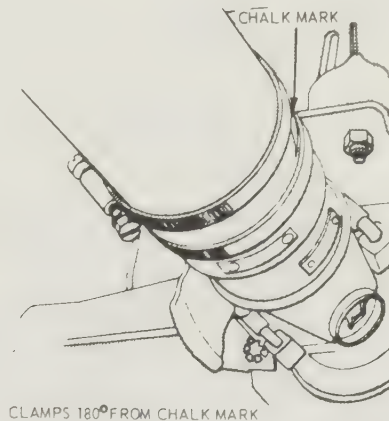

Fig. 7.4. Fitting the worm drive type hose clips (Sec. 6)
- 6 Fit two worm-drive type hose clips on the driveshaft so that the heads are 180° from the chalk mark. Tighten the clips (Fig. 7.4).